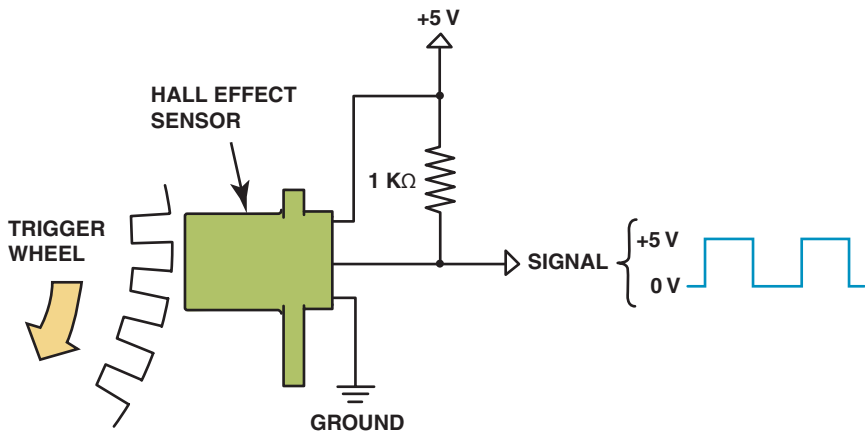

FIGURE 33-8 A Hall-effect sensor produces a digital on-off voltage signal whether it is used with a blade or a notched wheel.
3. Rotating ring of metal blades (shutters) similar to a trigger wheel (Another method uses a stationary sensor with a rotating magnet.) ● **SEE FIGURE 33-8.**